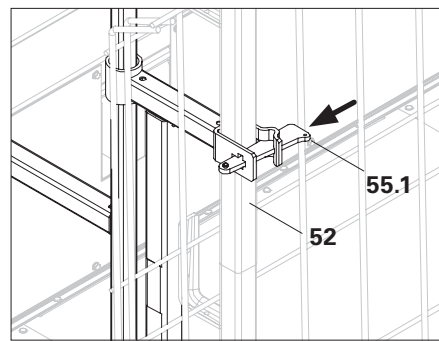

Fig. B5.04
6. Stopend Guardrail is secured by striking both wedges on the Guardrail Post MXK (52) with a hammer. (Fig. B5.04)